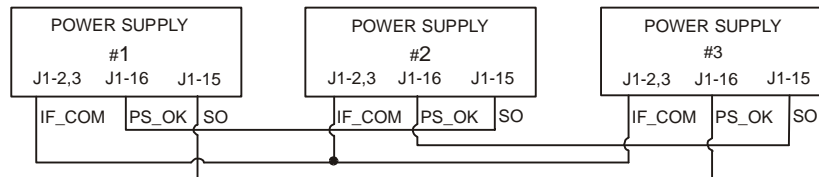

Fig.5-6: Daisy-chain connection
3. Daisy Chain Connection: (See Fig. 5-6)
- o Connect J1-2 (or J1-3) common to all supplies (See Fig. 5.6).
Fig.5-6 shows connection of three units, however the same connection method applies to systems with a larger number of units.